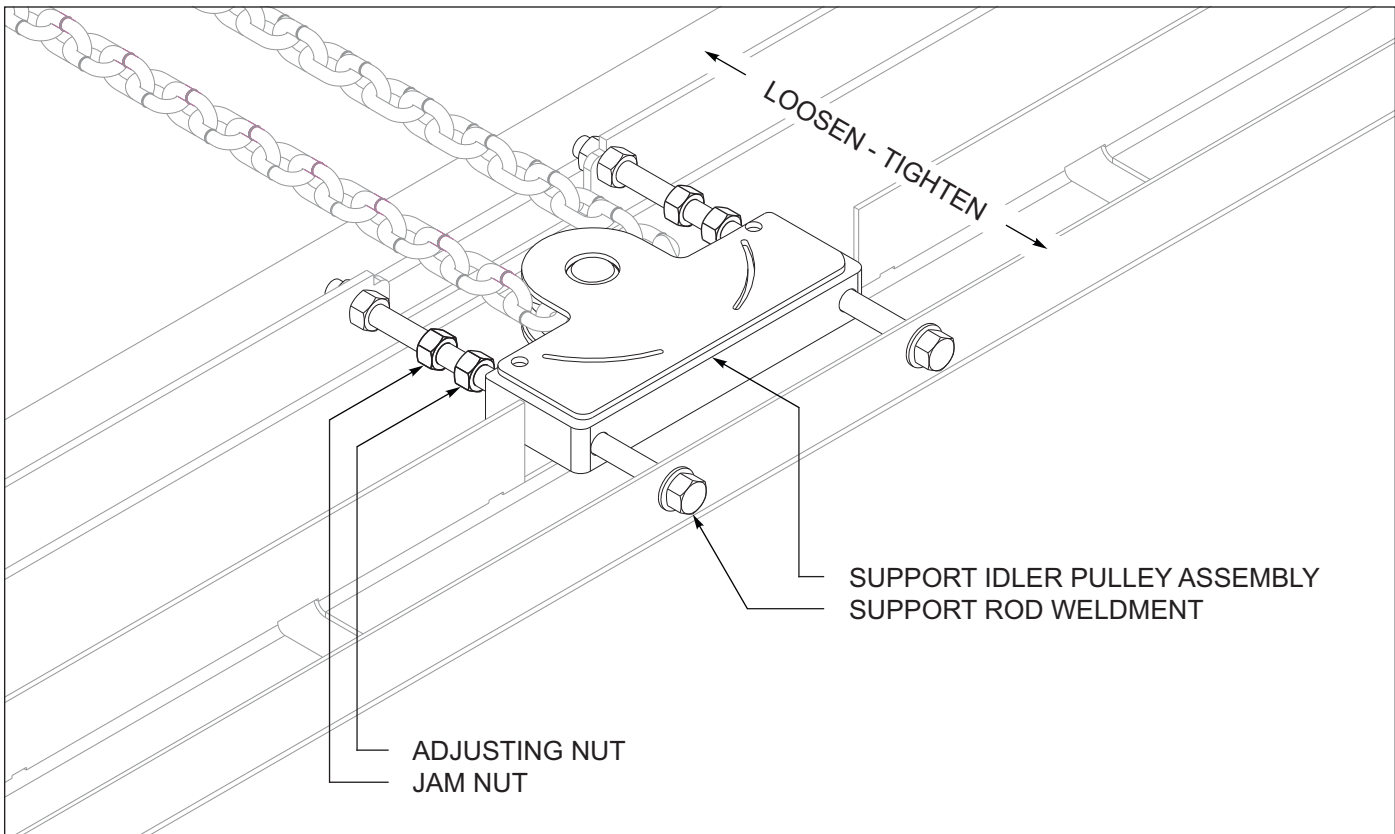

Figure 4-3: Support Idler Pulley Assembly
6. Slightly loosen the two adjusting nuts that holds the support idler pulley assembly to break loose assembly tension, **See Figure 4-3.**
8. Tighten and torque the two adjusting nuts evenly to 90 ft-lbs (122 Nm), **See Figure 4-3.** If unable to achieve 90 ft-lbs or the support idler pulley assembly is at max travel, contact the Landoll Trailer Service Department.
9. Tighten and torque the two jam nuts while securing the adjusting nuts to 125 ft-lbs (169 Nm), **See Figure 4-3.**
5. Loosen two jam nuts securing the two adjusting nuts against the support idler pulley assembly, **See Figure 4-3.**
5. Fully loosen two jam nuts securing the two adjusting nuts against the support idler pulley assembly, *See Figure 4-3*.
6. Fully loosen the two adjusting nuts that holds the support idler pulley assembly to release the chain tension, *See Figure 4-3*.
7. Slide the support idler pulley assembly fully forward to allow slack in the chain, *See Figure 4-3*.
10. Route the drive chain out of the support idler pulley assembly, *See Figure 4-3*.
2. Align the drive chain from the gearbox chain sprocket to the idler pulley assembly, with horizontal welded links facing out and the vertical welded links facing up, *See Figure 4-3.*
3. Route the drive chain through the support idler pulley assembly and back towards the gearbox chain sprocket. **VERIFY** that the horizontal welded links are facing out and the vertical welded links facing up, *See Figure 4-3.*
9. Slide the support idler pulley assembly back to decrease the slack in the chain, *See Figure 4-3.*
10. Slightly tighten the two adjusting nuts to hold the support idler pulley assembly, *See Figure 4-3.*